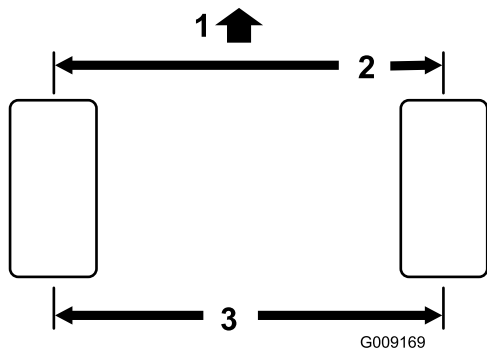

Figure 75
2. Measure the center-to-center distance (at axle height) at the front and rear of the steering tires (Figure 75).